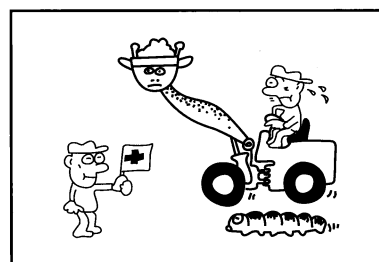

Figure1-71
- Be careful when the load must be lifted to the highest position. Lifting the load to high position is dangerous because it make the loader unbalanced, so move the loader slowly and take notices when tilting the bucket forward. (Figure 1-71)